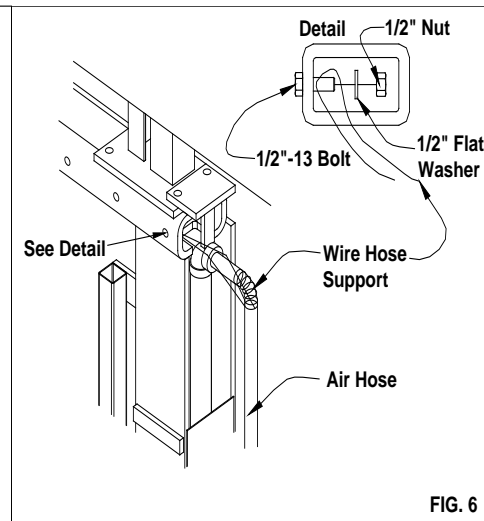

FIG. 6
- A. Each Titan Lift requires an air supply of 80 CFM at 100PSI of clean, dry air. Attach air supply hose (supplied with unit) to lift using the hose clamp provided and bolt wire rope hose support to the hole in the top roller mount (see figure 6).